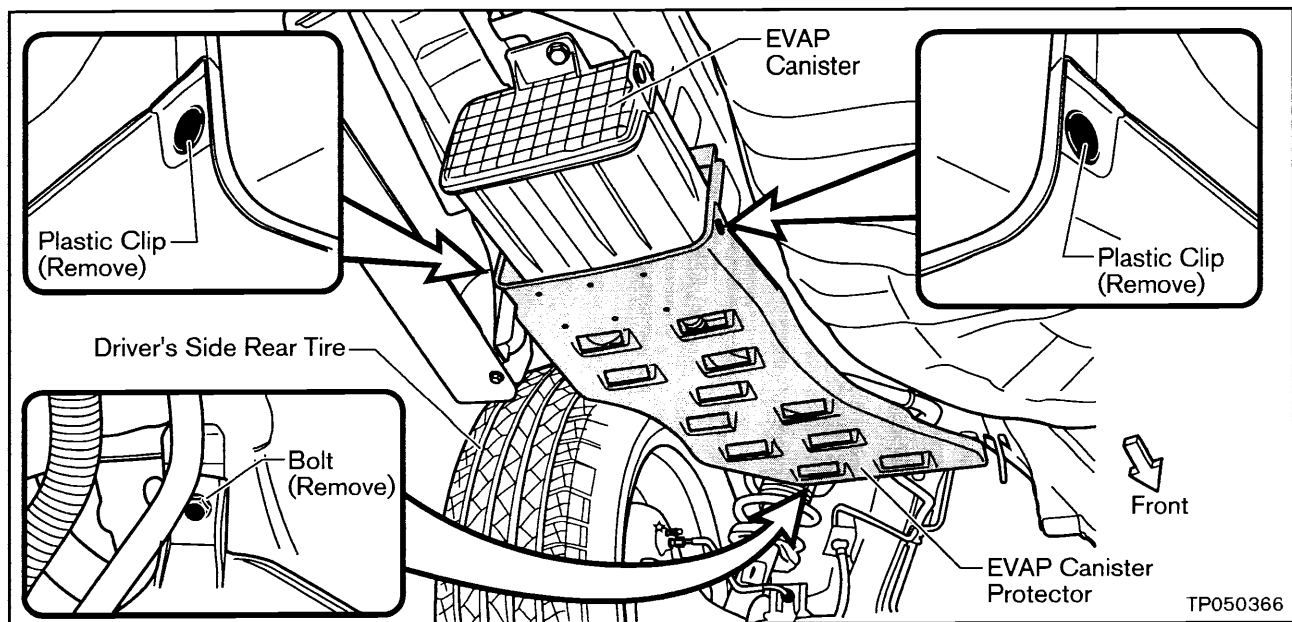

Figure 18
1. Remove two Plastic Clips and one Bolt and remove the EVAP Canister Protector (see Figure 18).